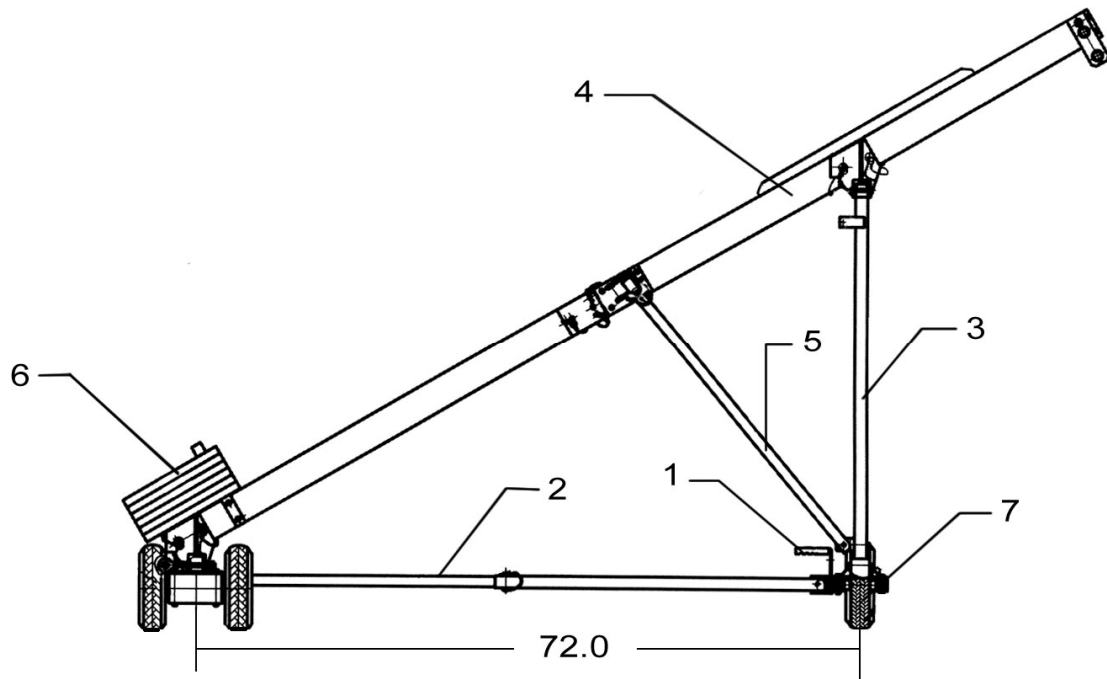

Figure 2
During use, the rigger (Fig.2) is locked in place using the front handbrake (pos.1) thereby providing a safe, stable, and secure anchor point for the suspended worker.
Connect the descent (work) line to the attachment point on the Roof Rigger (Fig. 2)